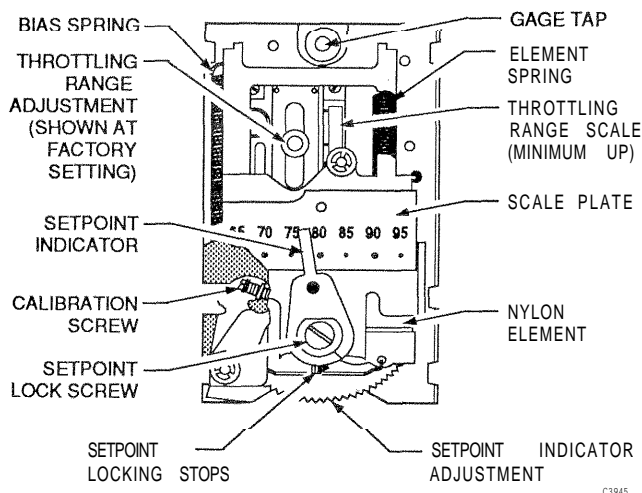

Fig. 21. Humidistat Controls and Indicators — Cover Removed.
1. Slide the throttling range indicator (Fig. 21) to the desired indication on the scale.
2. Turn the setpoint indicator adjustment (Fig. 21) until the setpoint indicator reads 10 percent below (HP970A) or above (HP970B and HP972B) the indicated rh and allow the Humidistat to build up BLP.
2. Install the Pressure Gage into the gage tap (Fig. 21) using the Gage Adapter.
4. Use the setpoint indicator adjustment (Fig. 21) to set the setpoint indicator at the actual relative humidity.
5. Adjust the calibration screw (Fig. 21) until the Pressure Gage reads 0 psi (0 kPa).